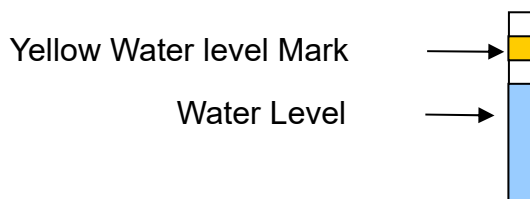

Figure 27
**Caution:** Please fill Distilled Water Only into the unit. Please do not fill water over the yellow water level mark as Figure 27 and Figure 32.